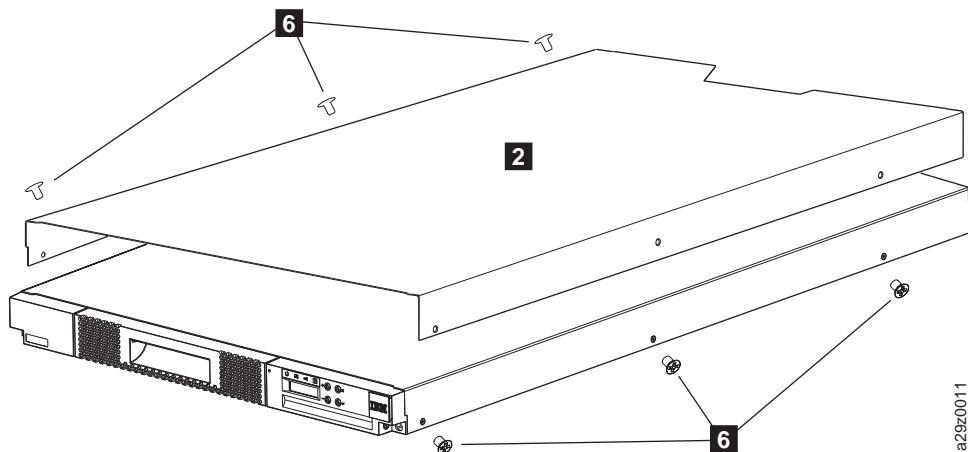

Figure 137. Attaching the cover to the library chassis (side screws)
3. Position the deskside cover **2** in the correct orientation over the library chassis and attach the cover to the library with 3 flat-head screws **6** on each side (Figure 137).